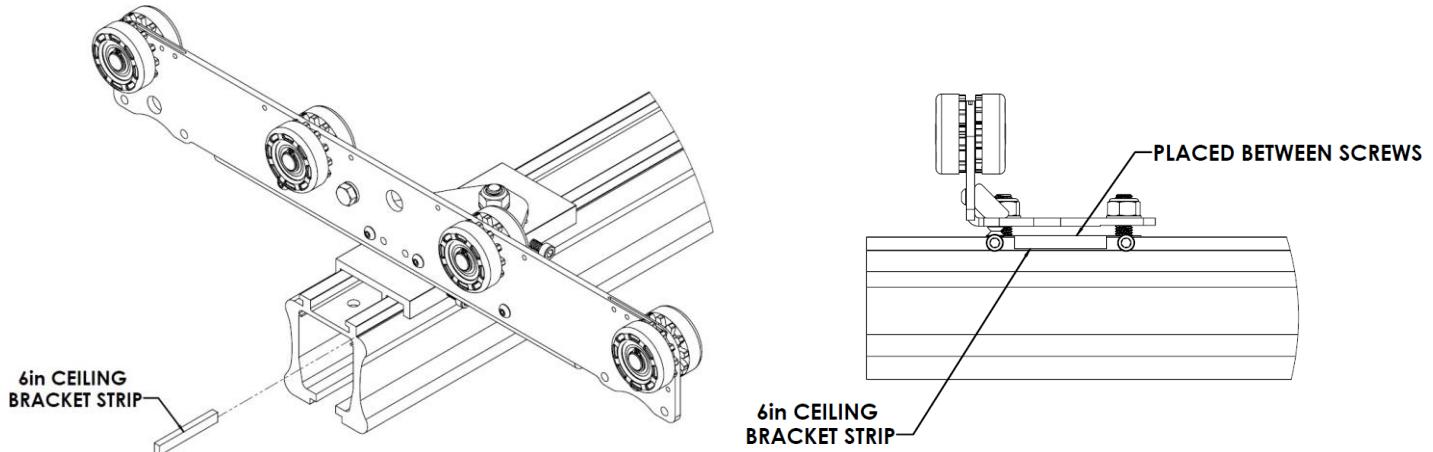

Figure 38: *Bracket Strip Installation*
11. On both gantry brackets, install the included bracket strips (360449) between the track channel and the set screws, as shown in Figure 38. To insert the bracket strip:
Make sure that the 6" ceiling bracket strip is properly installed between the screws of the gantry trolley bracket (see Figure 38).